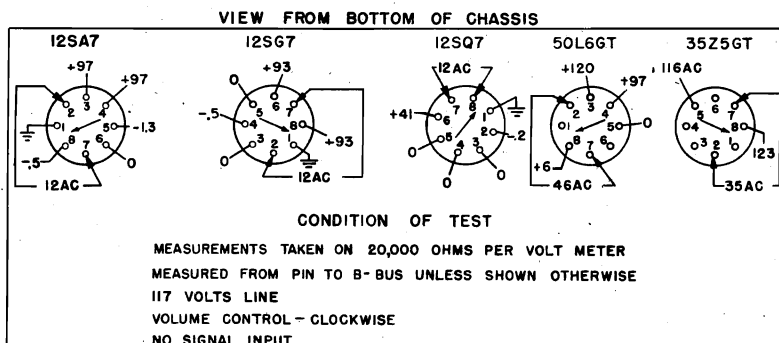

Fig. 4. Socket Voltages
(Fig. 4, Socket Voltages) At 12SA7 socket, pins 3 and 4 should be changed to read +92. At 12SG7 socket, pins 6 and 8 should be changed to read +97 volts.
Figure 4 shows voltages from all tube pins to B- unless otherwise specified. Voltage readings much lower than those specified may help localize defective components or tubes
(4) Socket Pin Voltages. Fig. 4 shows voltages from all tube pins to B—unless otherwise specified. Voltage readings much lower than those specified may help localize defective components or tubes.